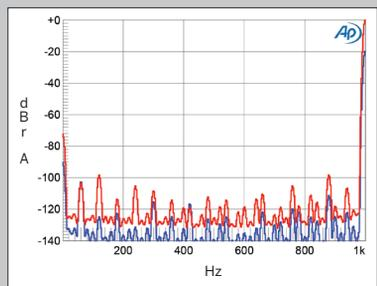

Fig.3 Dan D’Agostino Progression M550, spectrum of 1kHz sine wave, DC-1kHz, at 1W (blue) and at 100W (red) into 8 ohms (linear frequency scale).
Measured with both phases of the balanced input shorted to ground, the M550's wideband, unweighted signal/noise ratio was 55.3dB, ref. 1W into 8 ohms. This ratio improved to 80.5dB when the measurement bandwidth was restricted to 22Hz-22kHz, and to 89dB when the reading was A-weighted. The blue trace in fig.3, taken at 1W into 8